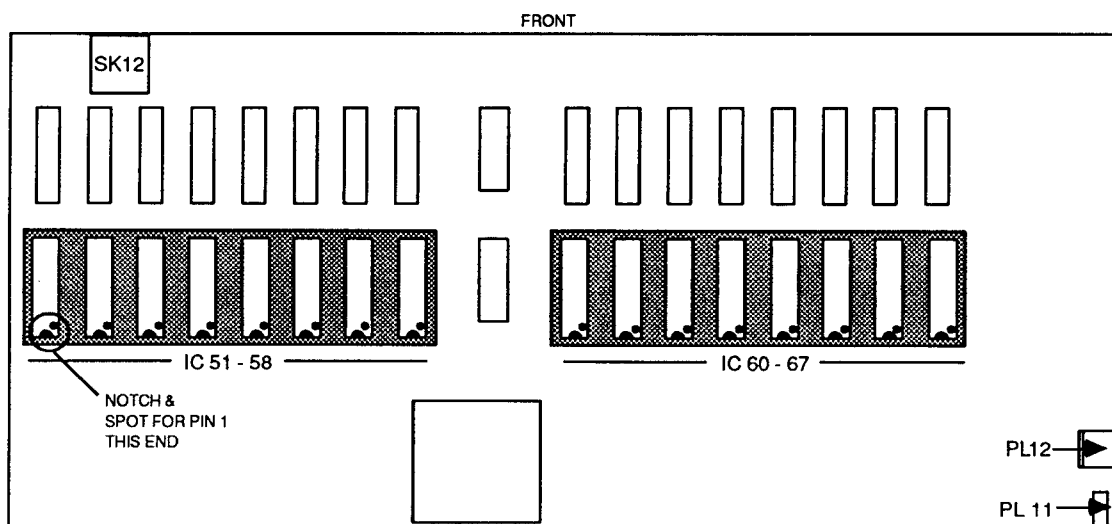

FIG. 4 RAM UPGRADE IC SOCKETS
12. Insert the 16 RAM ICs into the two banks of 8 sockets IC51 - 58 and IC60 - 67 on the main board with the notches (for pin 1) in the ICs facing the rear panel. Ensure that all the pins have entered the sockets and that none are splayed out or bent underneath (see fig. 4).